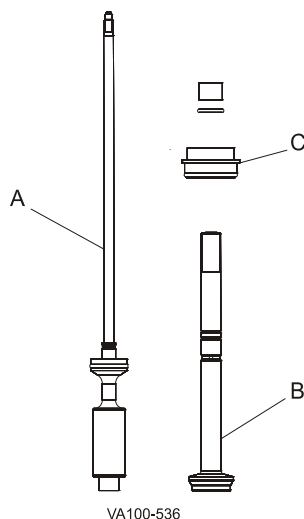

Figure 24 - Stem Removal
2. Upper stem removal: Hold the adjusting sleeve stationary with a spanner wrench, turn the stem (Figure 24, item B) counter-clockwise, and remove it from the actuator. If the adapter (Figure 24, item C) comes out of the yoke, handle it with care.
Table 6: Call-out table for Figure 24